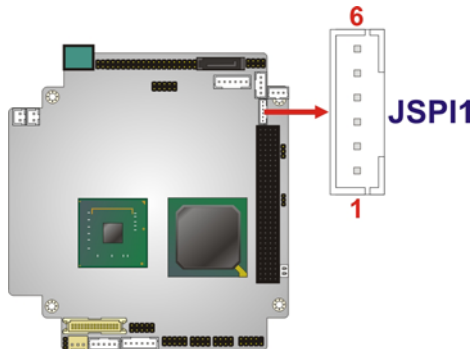

Figure 3-21: SPI Flash Connector
- CN Location:** See **Figure 3-21**